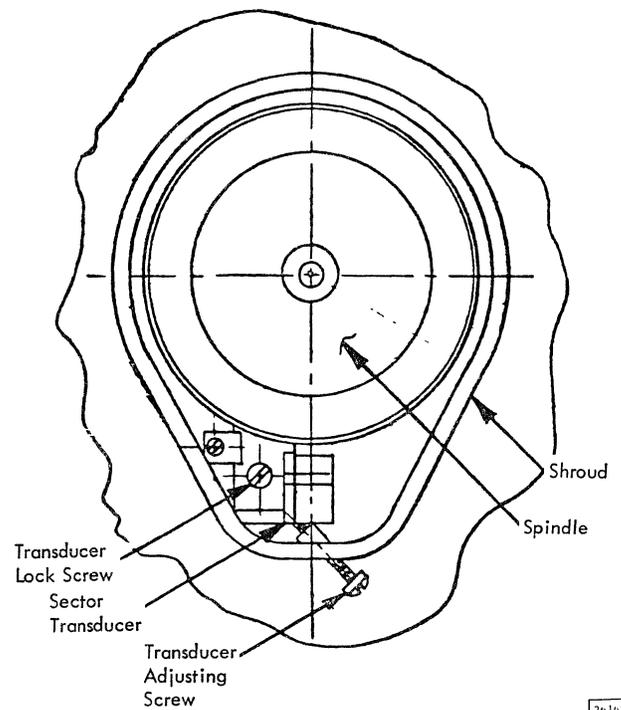

Figure 7-9. Index Timing Adjustment
### 7.18.1 Sector Transducer Index Timing Adjustment (Figure 7-9)
9. With the cartridge handle in the open position, loosen the transducer lock screw (Figure 7-9).
10. Use the transducer adjusting screw (Figure 7-9) to position the transducer to increase or decrease the time delay. Turn the screw clockwise to increase the time delay and counterclockwise to decrease the time delay. One turn of the adjusting screw provides a change in time delay of  $78\mu\text{s}$ .